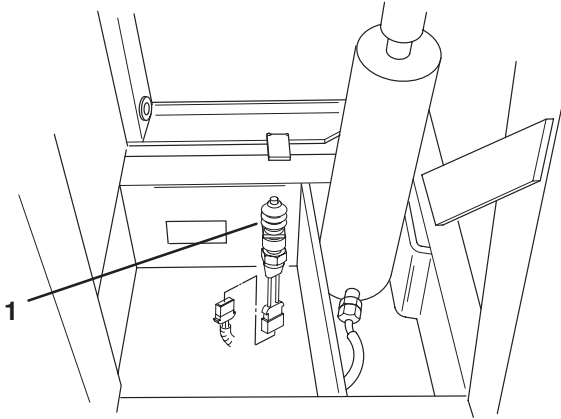

Figure 16
3. Route the harness to the hopper switch mounted to the frame tube (Fig. 16). Plug the harness into the switch.